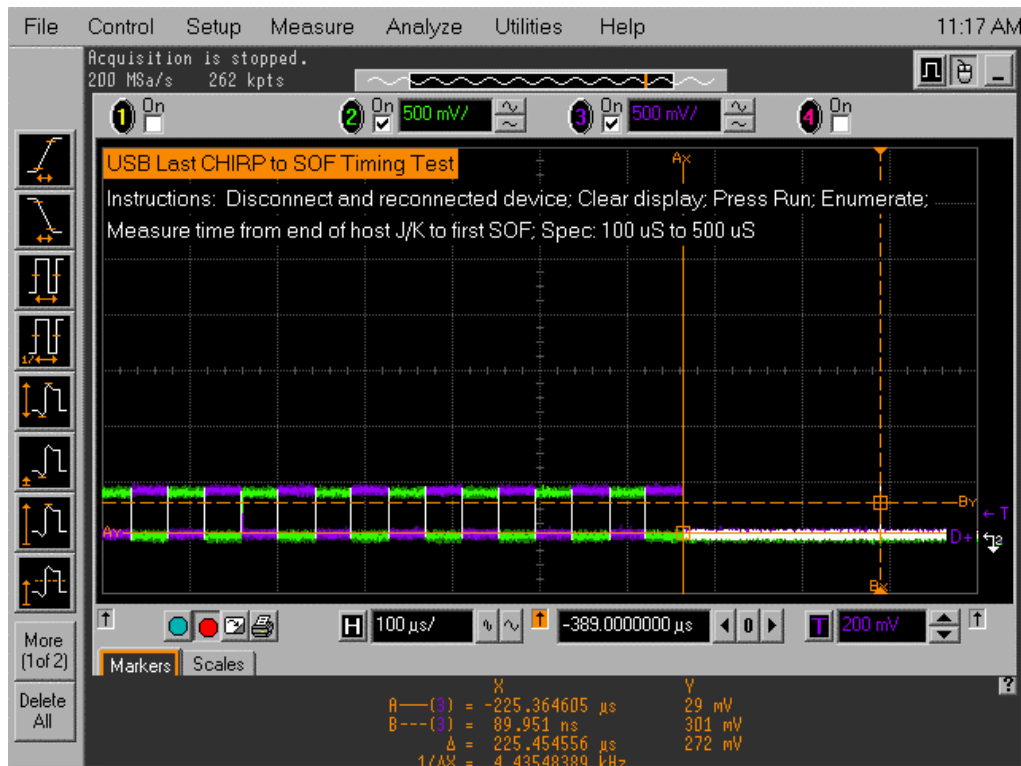

Figure 25. Time between SOF and Last Chirp- (J or K)
- a. The oscilloscope capture should appear as in Figure 25.
13. Use the markers to measure the time from the end of host Chirp-J/K to the first SOF sent out by the host. (Figure 25)